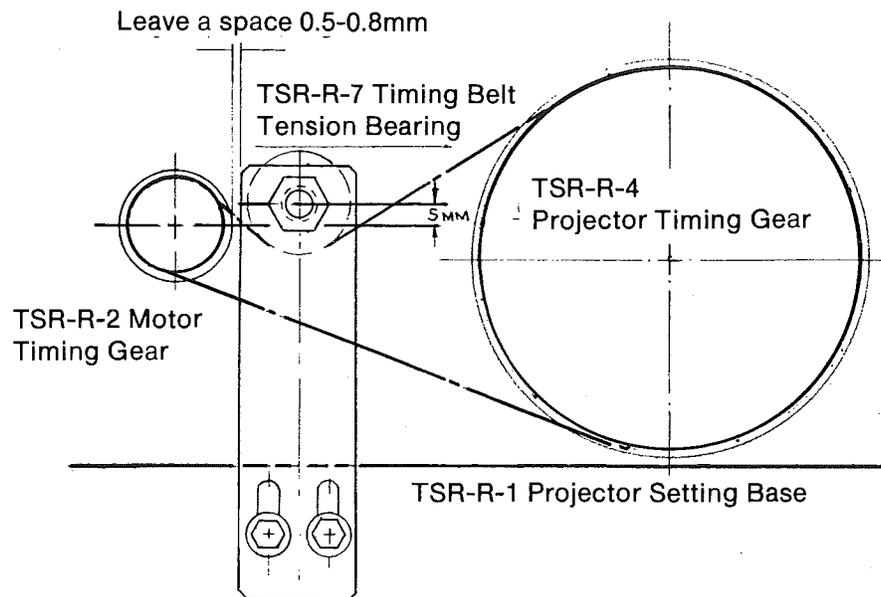

Fig. 6-4: Timing Belt Tension Bearing Setting Point
- 6.7.2 To adjust the Drive Belt Idler Tension Roller Assembly, first remove the three fastening screws which secure the Rear Lower Cover (TSR-A-2B) to the projector's main frame. Remove the Cover, loosen the two Idler Arm Retaining Bolts (TSR-R-6A × 2) and position the Idler Arm (TSR-R-6) so that: 1) it tilts slightly toward the Motor Drive Pulley (TSR-R-2B), leaving a gap of 0.5-0.8mm (approximately 1/32") between the Idler Arm and the Drive Pulley's outer flange when viewed from the projector's gear side; 2) the Tension Idler Bearing Rollers (TSR-R-7 × 2) depress the Drive Belt (TSR-R-3B) 5mm (approximately 3/16") below the horizontal center line of the Motor Drive Pulley when viewed from the projector's gear side (see Fig. 6-4). Securely tighten the Idler Arm Retaining Bolts and replace the Rear Lower Cover when the adjustment is completed.